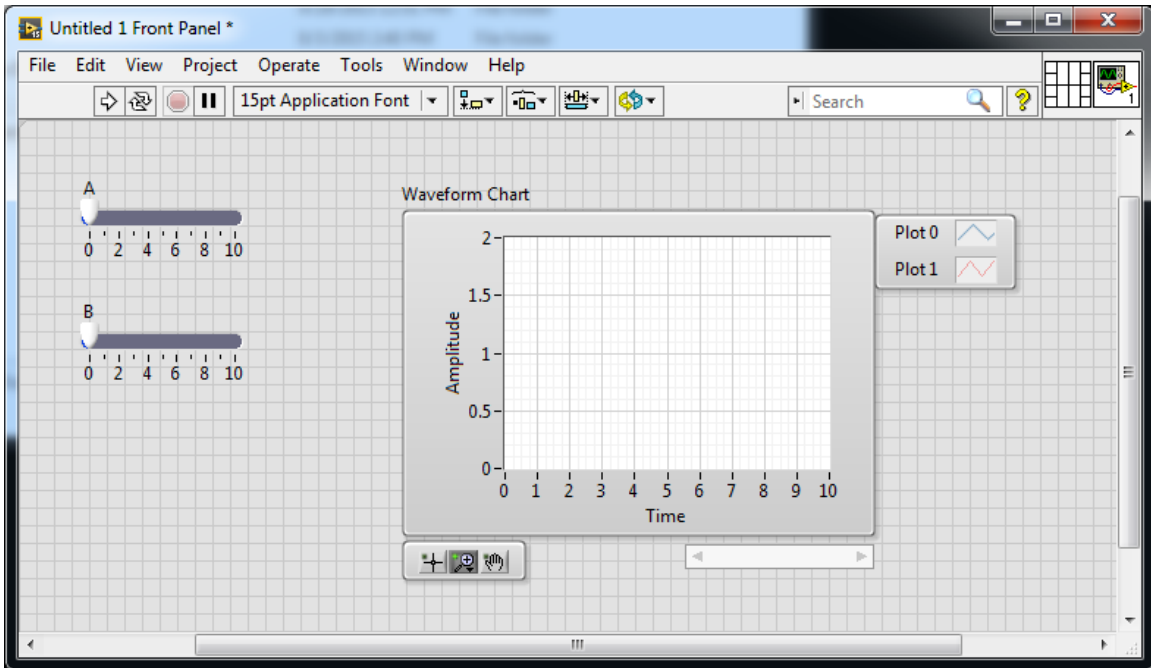
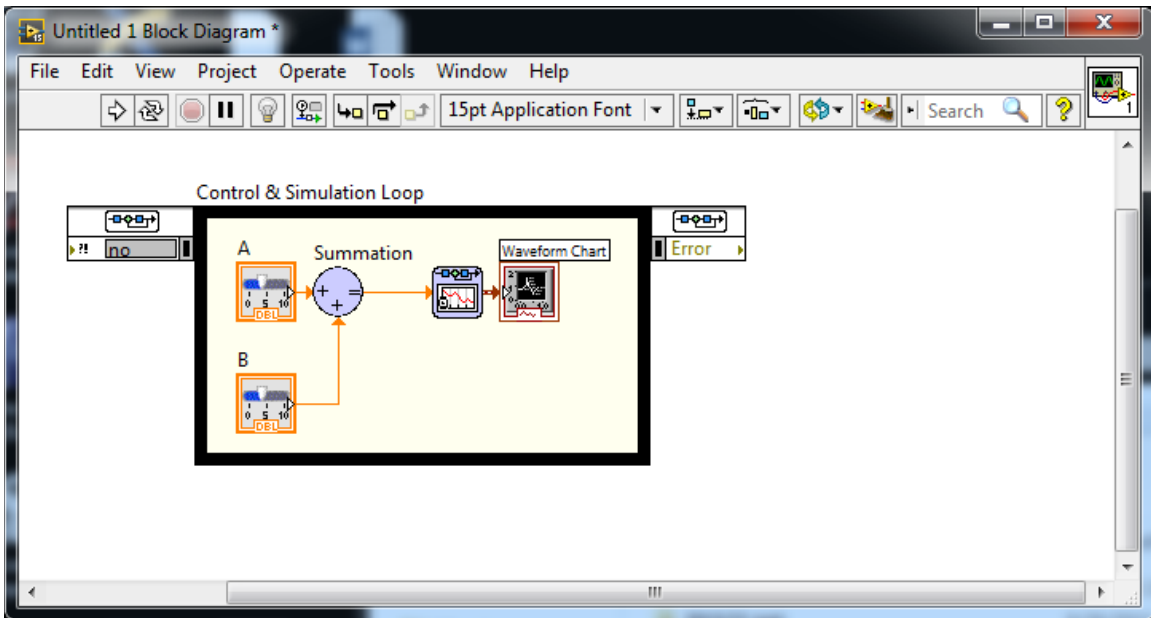

Figure 6 - Front Panel window with the complete summation simulation
Figure 7 - Block Diagram Window with the complete summation simulation
A **Summation** block in the Block Diagram computes the sum or difference of the inputs. You will be building the simulation shown in Figure 6 and Figure 7.
- In the Control & Simulation window, select **Simulation** to open the Simulation window. In the Simulation window, select **Control & Simulation Loop**. In the Block Diagram window, click in the upper left corner and drag the cursor to create the Control and Simulation Loop. It should look like an empty version of the tan box with dark edges in Figure 7.
- Now we are going to add the components inside the Control and Simulation Loop to match Figure 7. In the Simulation window, select **Graph Utilities**. Then click and drag a **SimTime Waveform** into the Block Diagram window and inside the Control and Simulation Loop. Once the block appear in your Block Diagram, you should see a corresponding "Waveform Chart" in the Front Panel. You may resize your Waveform Chart in the Front Panel using the double-ended arrow mouse cursor.
- Now, go to the Front Panel. Right click in an empty area of the window. You will see a list of available functions appear, similar to the list you saw in the Block Diagram. Select **Numeric** and then **Horizontal Pointer Slide**. Repeat this step so you have two different sliders like Figure 6.
- Go back to the Block Diagram and you will have two new blocks corresponding to each of the sliders added in the previous step. Connect each of the sliders to the inputs of the Summation block, and connect the output of the Summation block to the Simtime Waveform block. Your block diagram should match Figure 7. To draw wires between blocks, hover over the edge of the output of the first block until your cursor changes to a spool of wire, then click on the edge of first block and the port on the input of the block you want to connect it to. Once everything is routed correctly, the Run arrow will appear in the left side of the tool bar. If this arrow appears broken and says List Errors, there is a block in your diagram that is not connected.